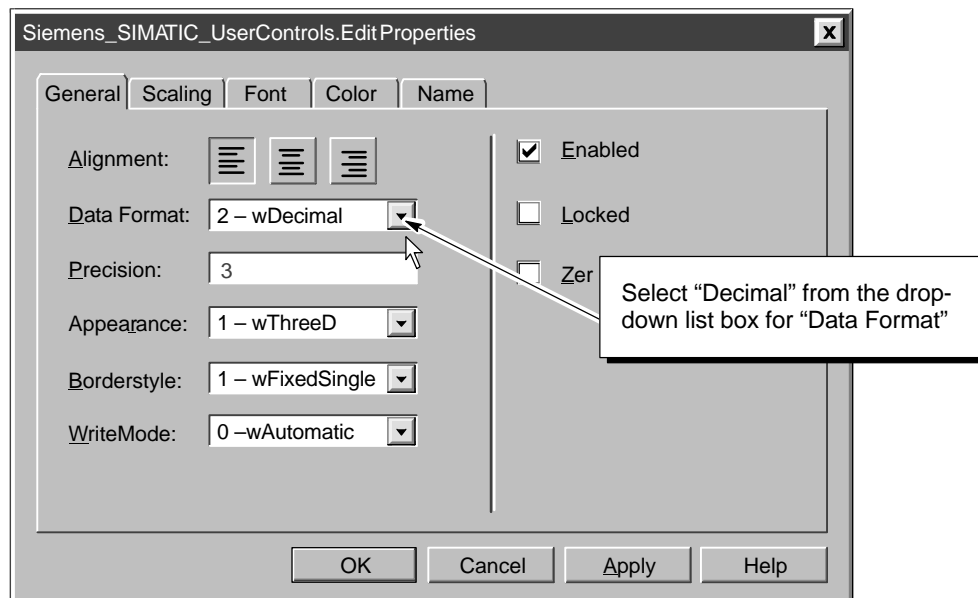

Figure 1-21 Configuring the Display Properties of the Edit control
3. Scroll to the entry for decimal and click on “2 – wDecimal” to display the value in binary format (0 or 1). See Figure 1-21.